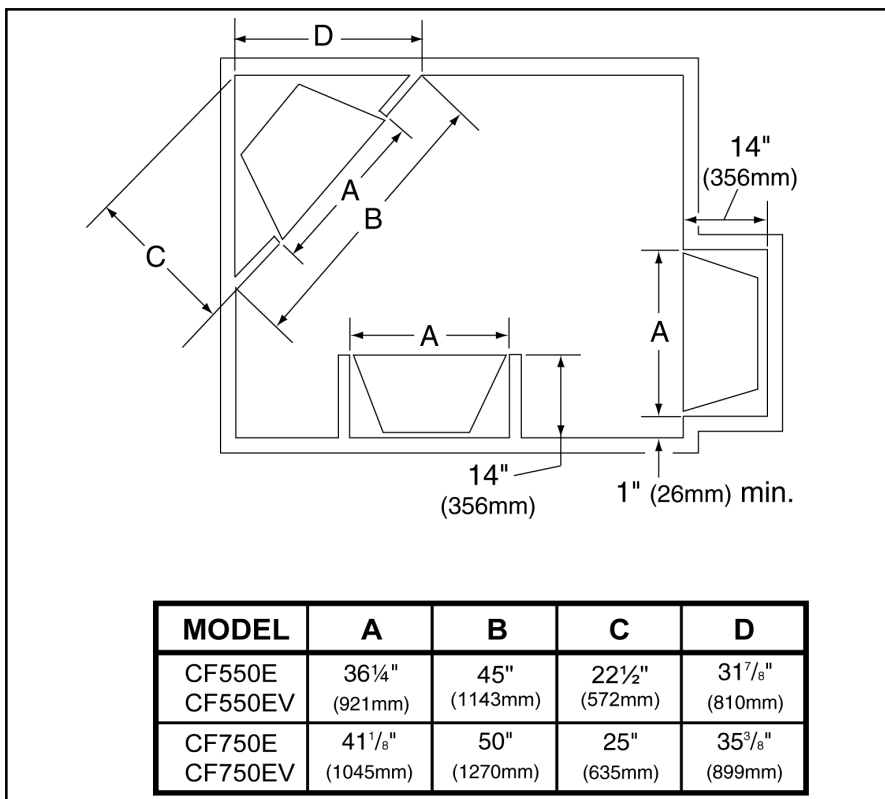

Figure 1 - Appliance Locations
Figure 1 illustrates a variety of ways the appliance may be located in a room. The Crestfire Series appliances may be installed directly on the floor or raised on a hearth.
Figure 1 shows all clearances that must be maintained around the appliance.
- If using a listed wall cabinet or corner cabinet, refer to the installation instructions supplied with the kit. For custom cabinets, frame and construct with the opening and depth dimensions listed in Figures 1 and 2.
- Follow recommended framing dimensions in Figures 1 and 2.